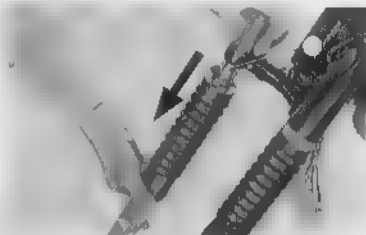

Fig. 4.20 Removing front cushion
① Fork top bridge plate
2. Disassemble the front cushion ① in accordance with 4.3 B. (Fig. 4.20)